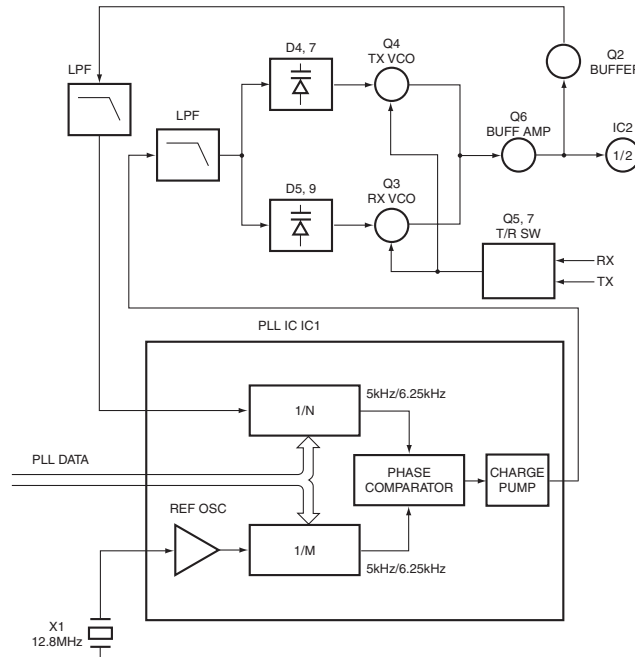

Fig. 5 PLL circuit / 图5 PLL 电路
A 12.8MHz reference oscillator signal is divided at IC1 by a fixed counter to produce an oscillator (VCO) output signal which is buffer amplified by Q2 then divided in IC1 by a programmable counter. The divided signal is compared in phase with the 5 or 6.25kHz reference signal from the phase comparator in IC1. The output signal from the phase comparator is filtered through a low-pass filter and passed to the VCO to control the oscillator frequency. (See Fig. 5)
12.8MHz 的参考振荡信号在 IC1 中被一个固定计数器分频。振荡器 (VCO) 的输出信号由 Q2 缓冲放大, 然后在 IC1 中被一个可编程双模块计数器分频。分频的信号在 IC1 的相位比较器中进行比较。生成的信号通过一个低通滤波器滤波后传送到 VCO 控制振荡器频率。(见图 5)